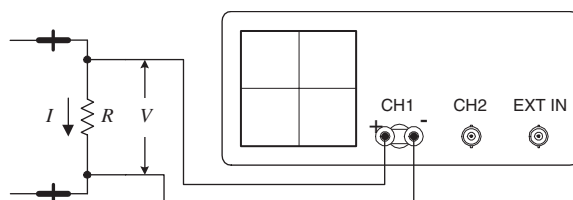

FIGURE 7.40
- Set up your equipment as shown in Fig. 7.40.